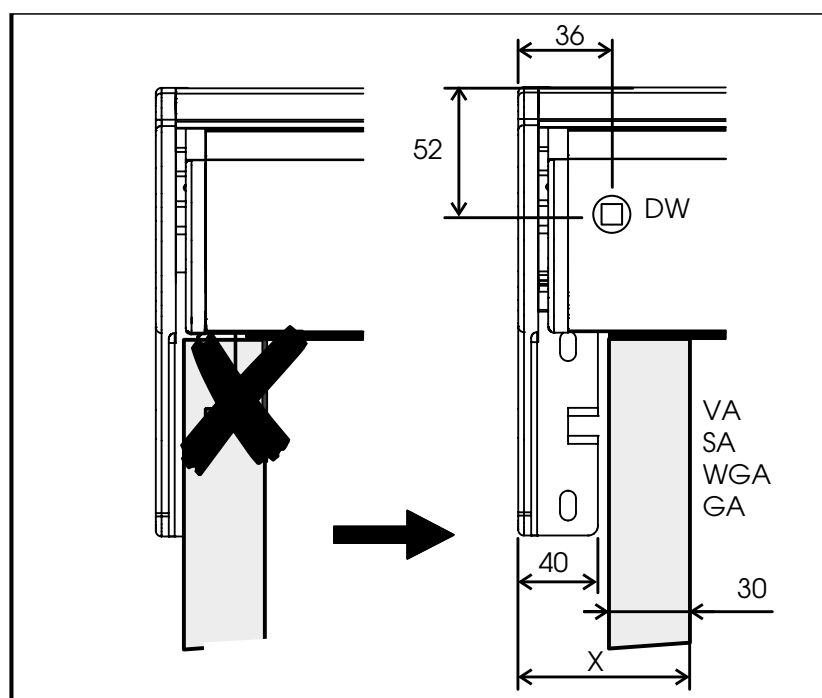

fig. 9 : Position of the arms
- The drop arms with an extension of 900mm and all slide arms, because of their arm geometry (front arm has approximately the same length as the rear arm), cannot be fitted under the side consoles, but beneath the side consoles of the awning (see figure 9). If this is not possible because of the situation of the assembly, one must use the US702.
- Fit the outer arms and brackets as far as possible to the side (for these see table underneath fig. 9). Spread the remaining arms and brackets proportionally along the remaining width.